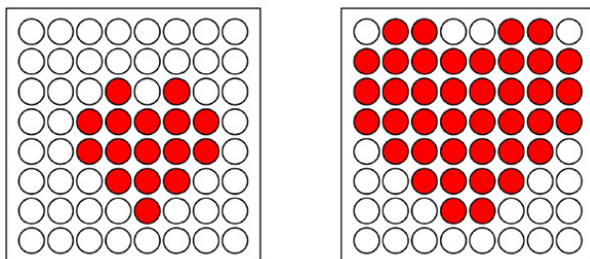

Figure 8: The two heart images displayed on each beats.
7. The sketch creates the effect of a heart beating by briefly lighting LEDs arranged in the shape of a heart. A small heart followed by a larger heart is flashed for each heartbeat (the images look like figure 8):